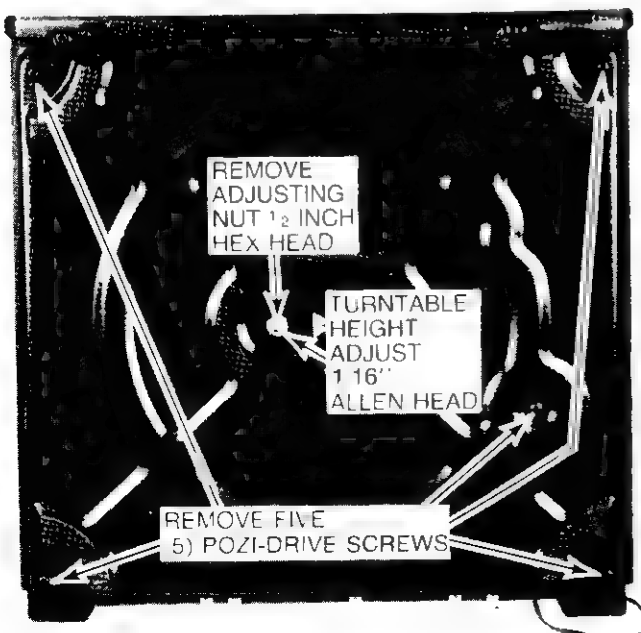

Fig. 10—Bottom Cover
- 3 Remove five (5) pozi drive (+ head) screws Fig. 10